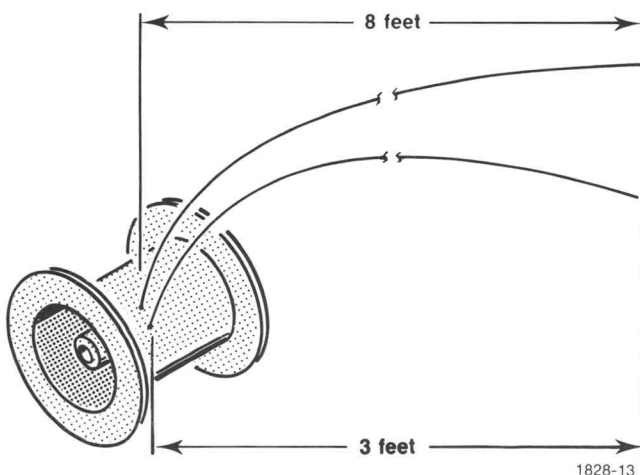

Fig. 3-13. X-Axis cable threading.
3. Start with the X axis drive pulley on the left side of the Plotter, and approximately 11 feet of the larger diameter wire (.034 inch diameter Tektronix Part No. 214-2002-00). The pen carriage should be manually moved to the right-hand edge of the platen. With the X axis drive pulley holes to the top-forward position (a 45° angle to the top and right of the drive shaft), thread about three feet of the .034-inch diameter cable through the forward hole from inside the drive pulley. Thread the remainder of the cable through the other hole. See Fig. 3-13.